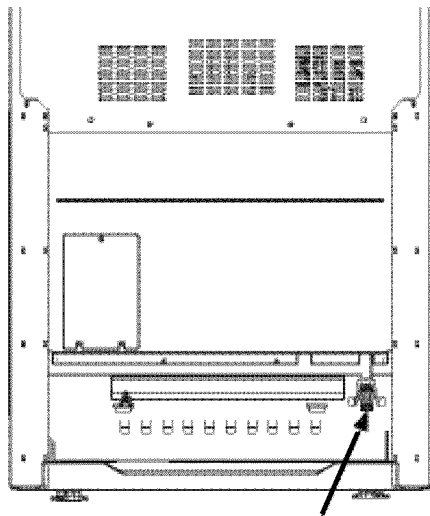
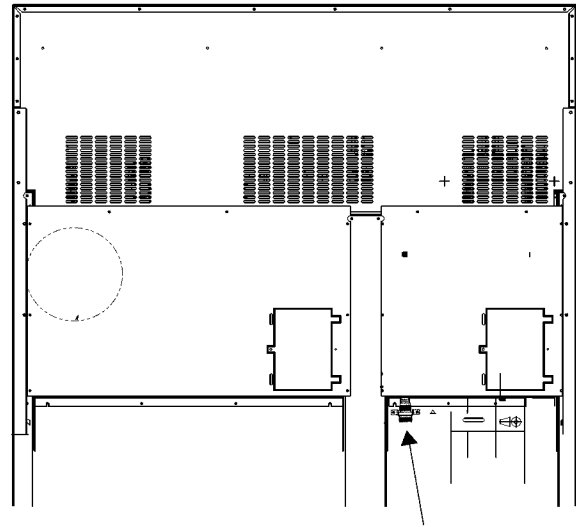

Figure 9: Location of Gas Supply Inlet Connection on 30" and 36" Ranges
Figure 10: Location of Gas Supply Inlet Connection on 48" Ranges
2. Use a 3/4" (19mm) flex line to connect between the gas supply and the appliance gas inlet. The gas supply line connection is located at the lower right portion of all range models (see *Figure 9* and *Figure 10*). The appliance gas inlet connection is 1/2" (13mm) NPT.